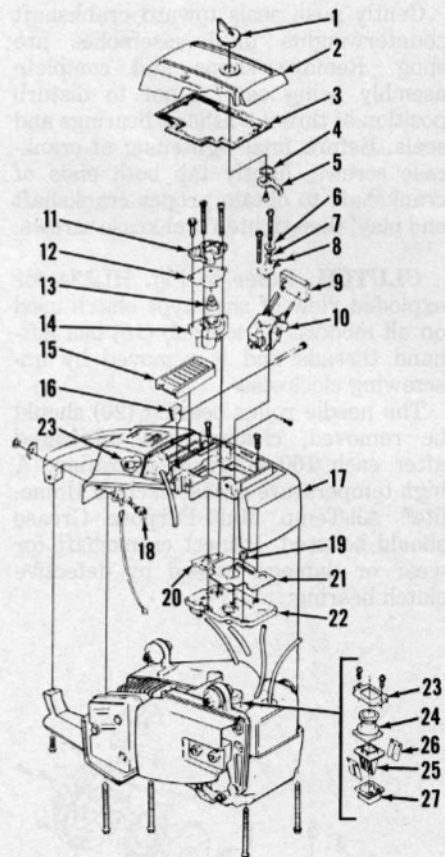
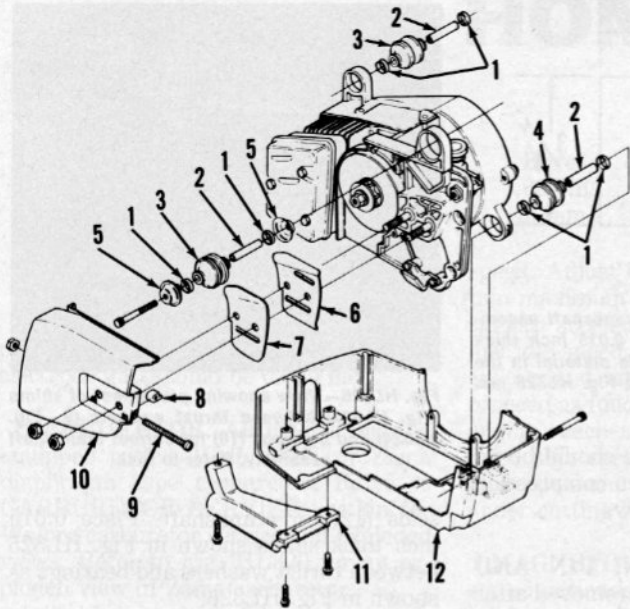

Fig. HL328—Exploded view of oil pump and air box assemblies.
Fig. HL329—View showing vibration isolator assemblies.
PYRAMID REED VALVE. A pyramid type reed intake valve seat (25—Fig. HL328) and four reeds (26) are used. Reeds are retained on pins projecting from the reed seat by retainer (27). Inspect reed seat, retainer and reeds for any distortion, excessive wear or other damage.
AUTOMATIC CHAIN OILER PUMP. All models are equipped with a crankcase pulse actuated automatic chain oiler pump (11 through 14—Fig. HL328). Crankcase pulses actuate diaphragm and plunger (12) to force oil out oil outlet. Check oil pump assembly for leaks. Carefully inspect cover (11) and diaphragm (12). If oil pump is defective due to warpage of cover (11), sand cover until flat or renew cover.
VIBRATION ISOLATORS. All models are equipped with vibration isolators between engine and engine housing. Vibration isolators may be renewed after removing top engine housing (17—Fig. HL328) and bottom engine housing (12—Fig. HL329). Use Fig. HL329 as a guide to reassemble vibration isolator components.